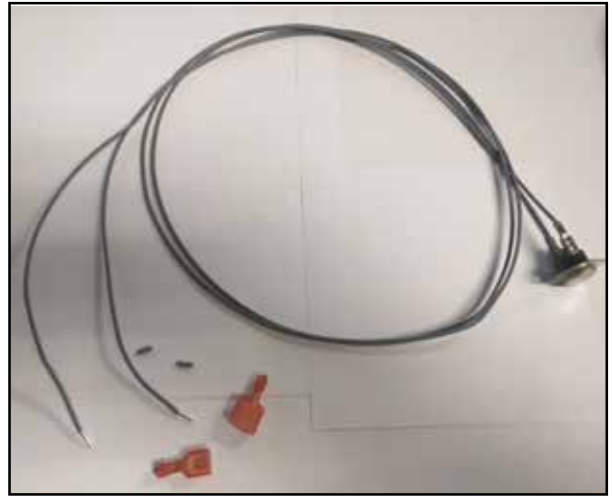

Figure 42: Spill Switch Modification
Step 1: Cut off the connectors from the one end of the wires. Note, the spill switch does not need to be removed from the DraftHood Adaptor for this modification (Figure 42).